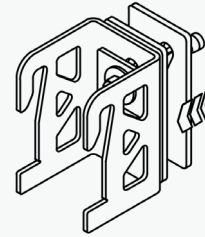

Figure 5: FERRO Shim Plates
- D** Install FERRO Shim Plates (if required) to accommodate construction tolerances. FAST Shim Plates are placed between the structural backing and the backside of the FAST Thermal Bracket. The FAST Shim Plates must bear directly against the structural backing and extend. (Figure 5)